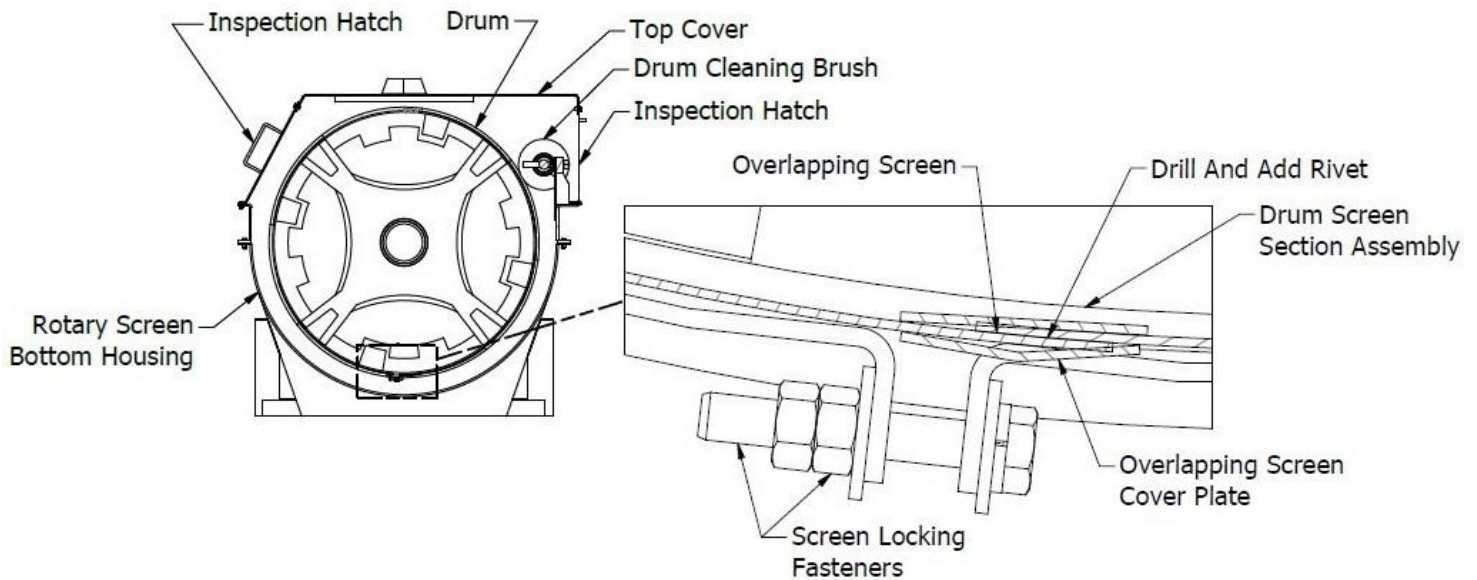

Figure 4: Drum Screen Section Assembly Detail
5. Use included clips and fasteners to tighten the screen by overlapping the screen with each other (Refer Figure 4).